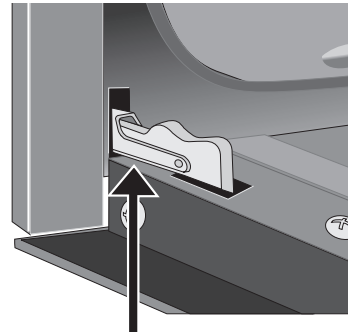
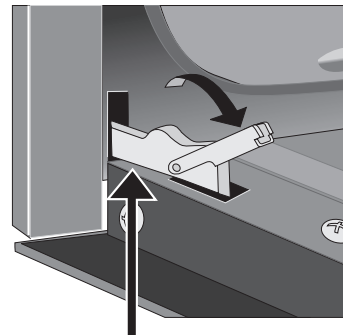

Figure 49: Door hinge locks/unlock positions
Figure 50: How to remove door
2. Pull up the lock located on each hinge support toward front of the oven. You may have to apply a little upward pressure on the lock to pull it up (Figure 49 and Figure 50).
4. Push the door hinge locks up toward and into the oven frame on both left and right oven door hinges to the locked position (Figure 50).